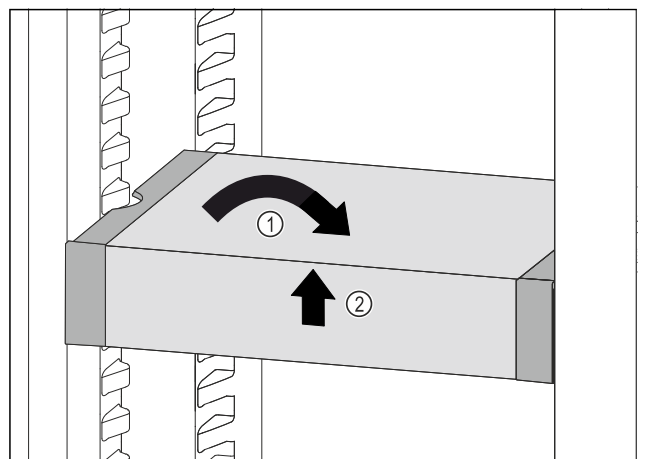

Fig. 90
- Set VarioSafe straight. Fig. 90 (1)
- Lift VarioSafe at the front. Fig. 90 (2)